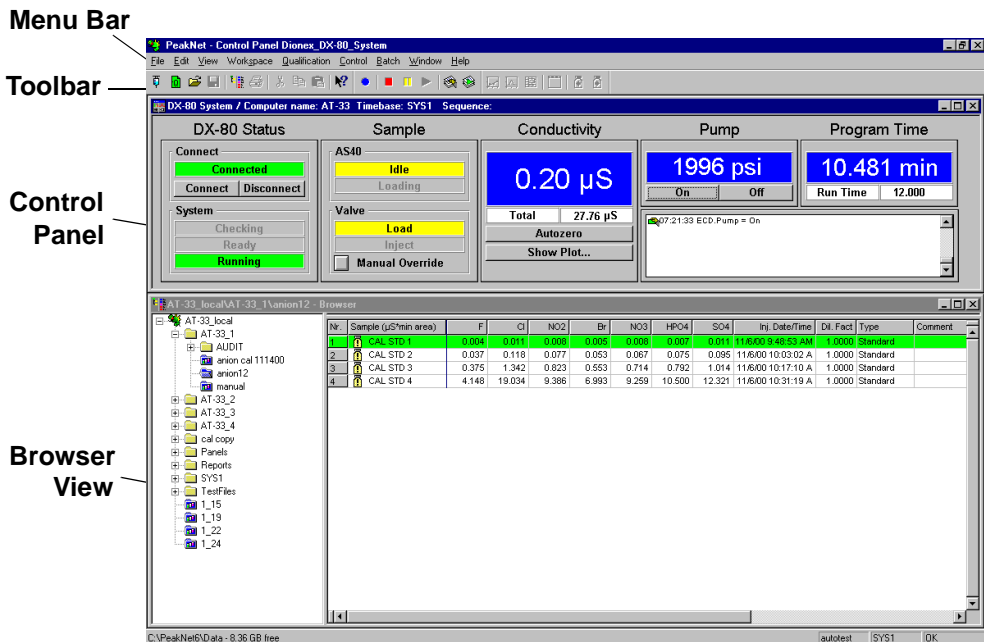

Figure 3-1. PeakNet IA
1. Turn on the computer, if it is not already on. From the **Start** menu, select **Programs > PeakNet > PeakNet** to open PeakNet IA. A window similar to Figure 3-1 will open.
NOTE If your PeakNet IA workspace does not look like Figure 3-1, you can easily modify it. First, open both the Control Panel and the Browser. Adjust the positions of the panels until they resemble the view shown here, and then select **Workspace > Save Workspace**. For more information about workspaces, see the PeakNet IA online Help.
1. Turn on the pump by clicking the **On** button on the DX-80 Control Panel (see Figure 3-1).
3. Allow the system to equilibrate for 30 minutes. During equilibration, the Control Panel displays the background conductivity (the conductivity of the eluent before sample injection). Offset the background and zero the reading by clicking the **Autozero** button on the Control Panel (see Figure 3-1).